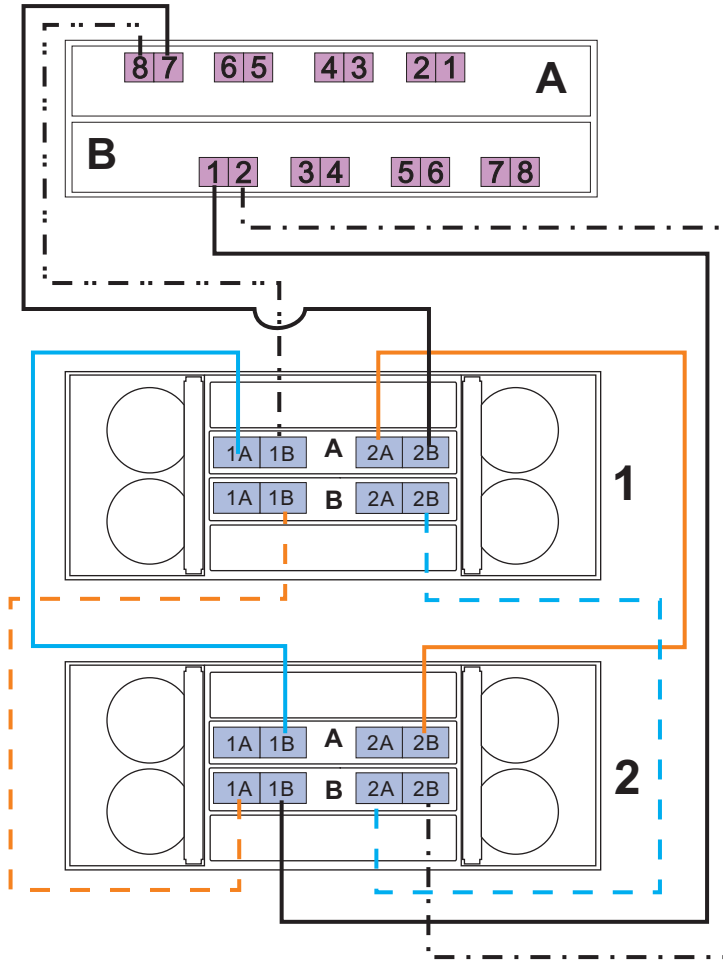

Figure 77. Cabling for eight EXP5060s, storage expansion enclosures 1 and 2 with drive-side trunking
- See Figure 77 on page 122 and Table 43 on page 123 for storage expansion enclosures 1 and 2